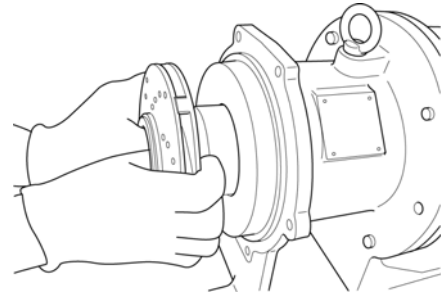

Figure 10
- Remove impeller (2) and inner magnet assembly (230) from the containment shell (231) by drawing it forward. Be careful not to scratch the surface of each part. Since the inner magnet assembly is strongly magnetized, store it in a place free of metal pieces. Handle the front casing liner (1.3), inner magnet assembly and impeller with extra care so as not to scratch the bushing and sealing surfaces. [Fig. 10]